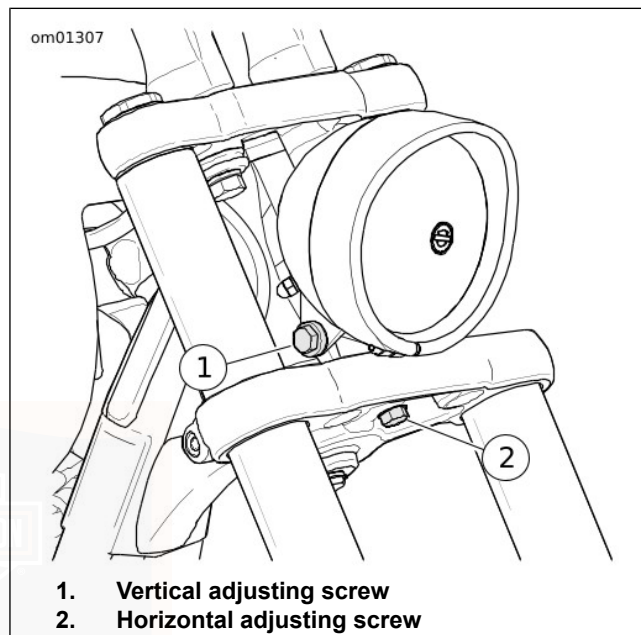

Figure 79. Headlamp Adjustment
2. See Figure 79. Adjust headlamp horizontal alignment.
- a. Loosen horizontal adjustment screw (2). Adjust headlamp horizontally to direct light beam straight ahead.
- 2. See Figure 79. Adjust headlamp vertical alignment.
- a. Loosen vertical adjustment screw (1). Adjust headlamp vertically until beam centers on horizontal line.
- b. Tighten vertical adjustment screw (1):